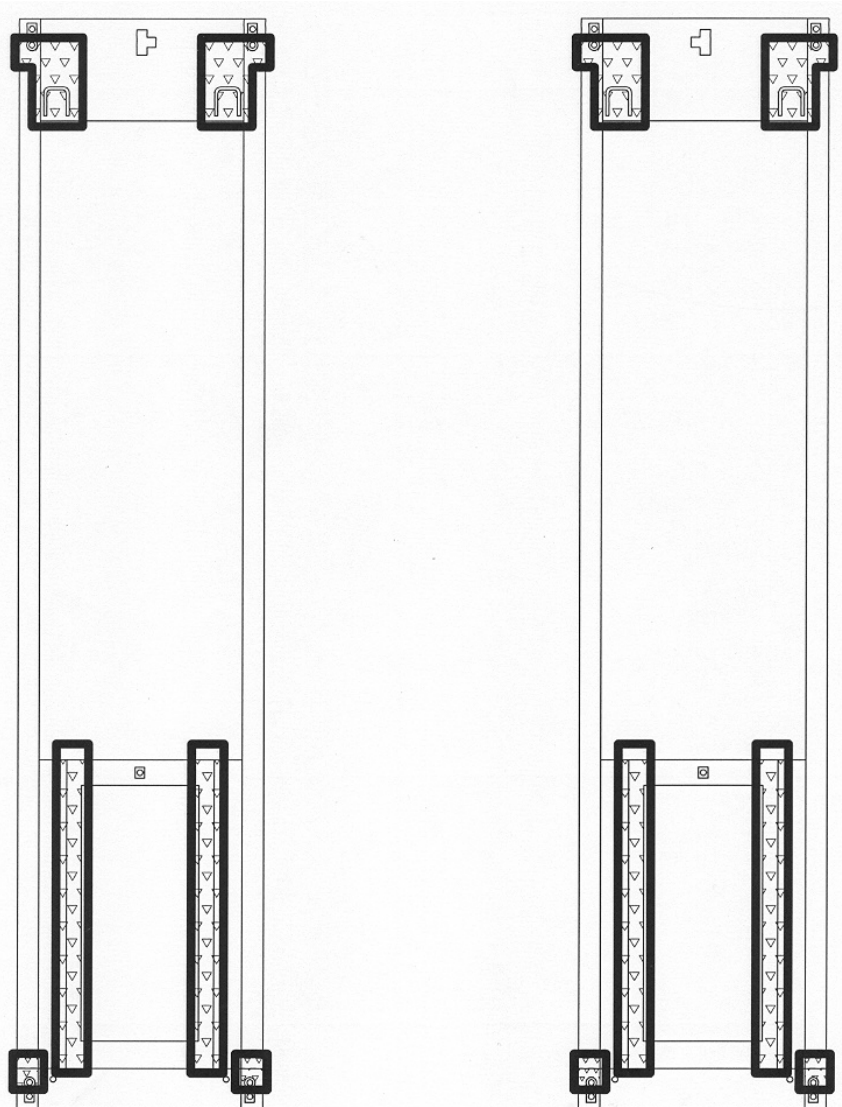

Figure 17 - Shimming
2. Level the baseframes using the 5/8" leveling bolts provided at each of the four (4) corners.
3. Use shims provided to support under glide block area of baseframe and under front hinges. See **Figure 17**.